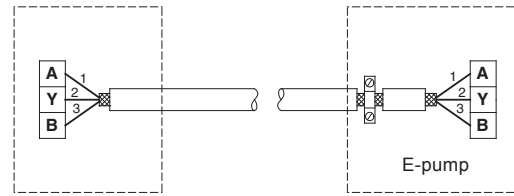

Fig. 56 Connection with screened 3-core cable and metal cable bracket at only the E-pump end
- If the unit or panel has no cable clamp as shown in fig. 56, the screen is left unconnected at this end.